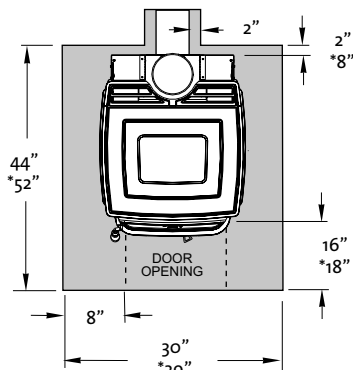

Figure 59. Minimum Hearth Dimensions.
- In a rear vent installation, floor protection must also extend under the stove pipe a minimum of 2" beyond either side. See figure 59